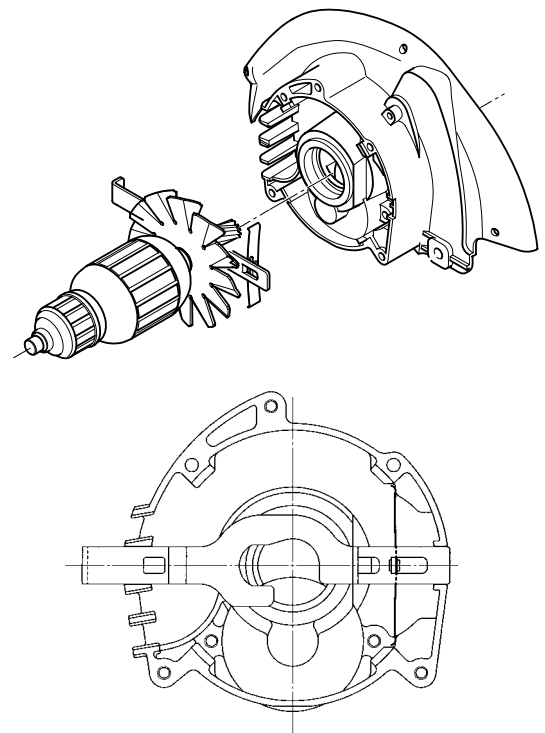

Fig. 2
(3) Reassembly of the Lock Lever [30] <30>: (See Fig. 2.)
B. Carefully ensure that both ends of the flat spring on the Lock Lever [30] <30> are properly supported inside the ribs of the Gear Cover [34] <34>, as illustrated in Fig. 2.